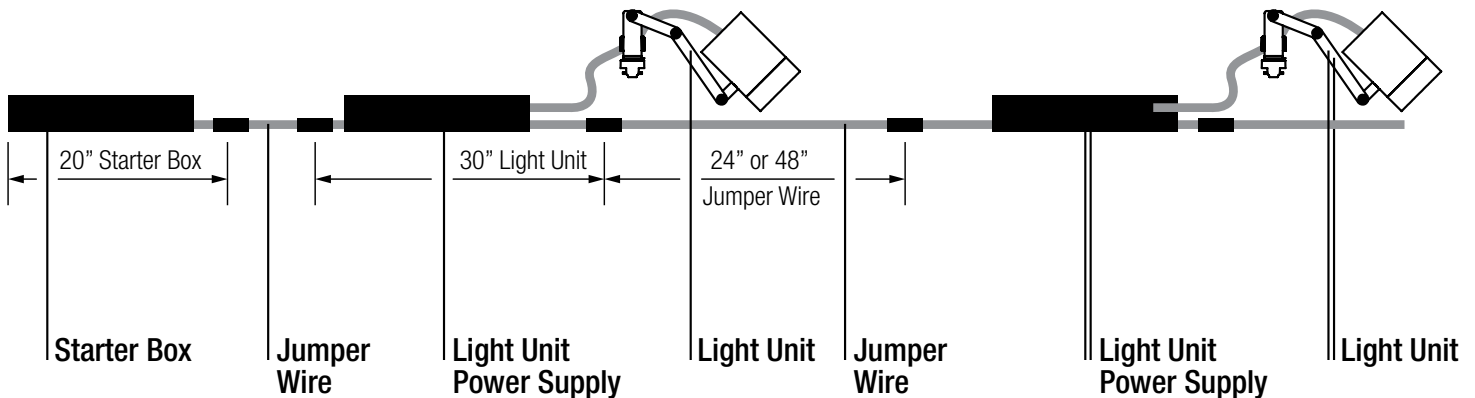

FIGURE 1
Step 4 Starting from the starter box, CONNECT FIXTURE POWER SUPPLY UNITS TOGETHER USING QUICK CONNECTS and/or JUMPERS as shown in *Figure 1*.